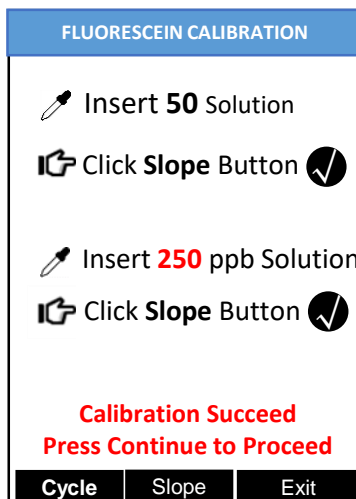

Figure 8
- 12) If calibration is successful, the screen will update with a third checkmark for the Slope setting as in Fig. 8, and the message Calibration Succeed will appear.